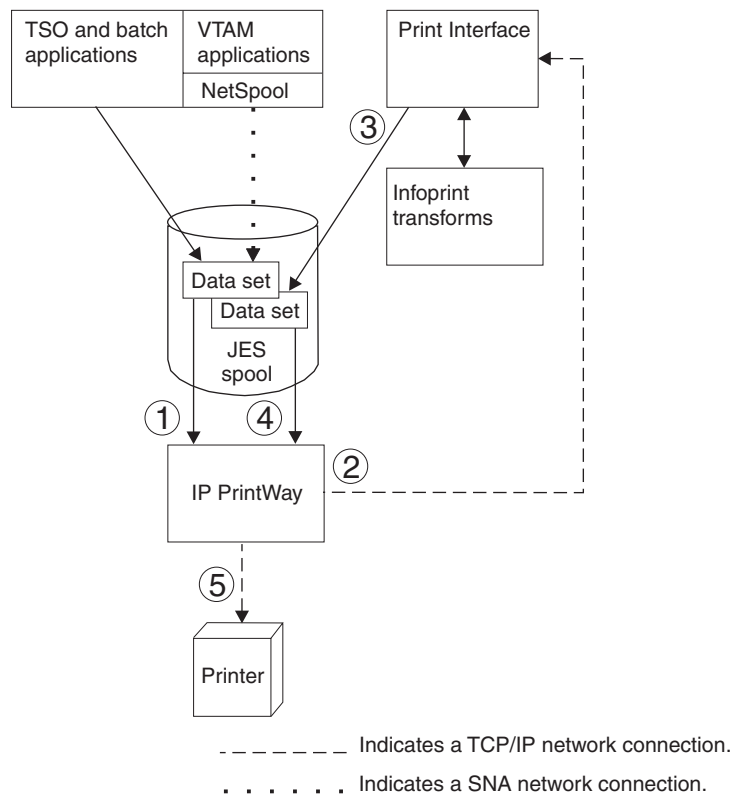

Figure 5. Processing when resubmit for filtering option is selected
Figure 5 shows the processing that occurs when you select the **Resubmit for filtering** field in a printer definition.
**Note:** The processing shown in Figure 5 on page 204 results in two data sets allocated on the JES spool. Therefore, do not select this option unless necessary because system performance can be adversely affected.